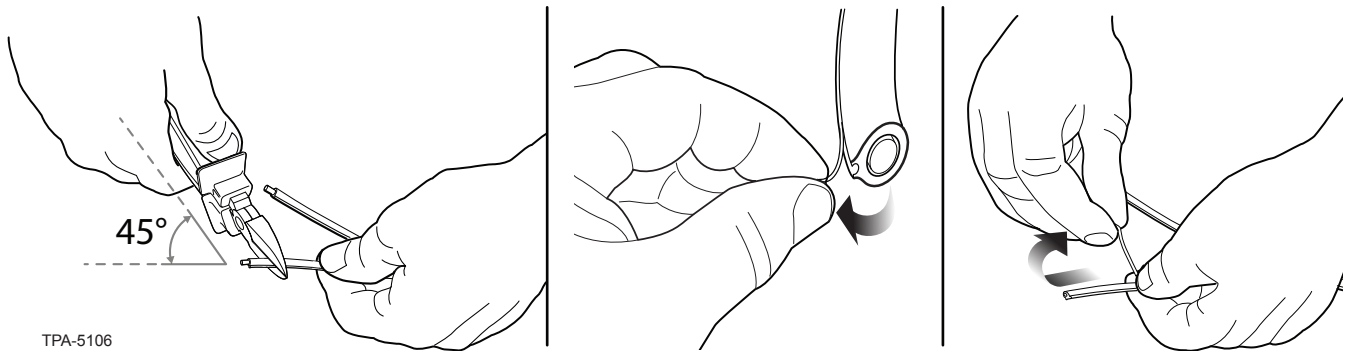

Figure 10
- a. Cut the end of the cable sheath with the fiber at an angle (Figure 10).